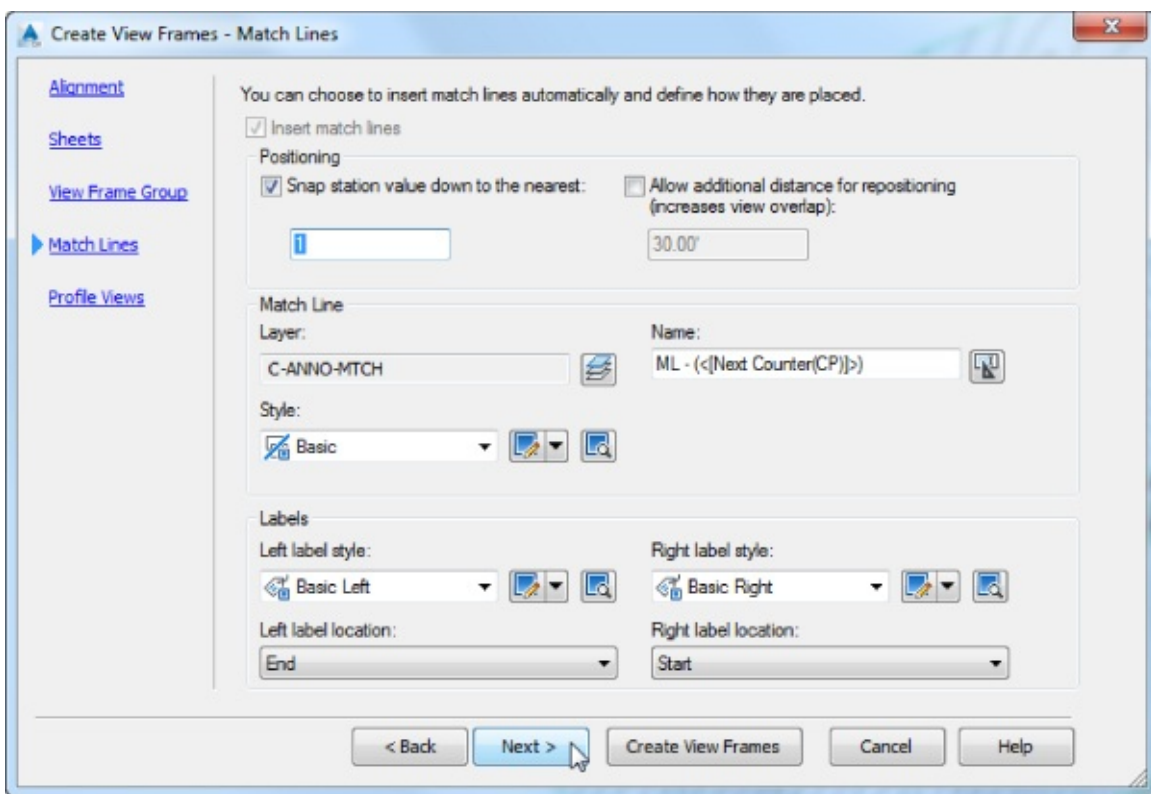

Figure 15.8 Create View Frames – Match Lines : wizard page
You use the fourth page of the Create View Frames Wizard (Figure 15.8) to establish settings for match lines. Match lines are used to maintain continuity from one sheet to the next. They're typically placed at or near the edge of a sheet, with instructions like “See Sheet XX” for continuation.
Snap Station Value Down To The Nearest By selecting this option, you override the drawing station settings and define a rounding value specific to match line placement. With the settings shown previously in Figure 15.8, a value of 1 is entered, resulting in the match lines being placed at the nearest whole station. For example, if the station was 8+14.83 and the value was 1, it would round down to 8+14, but for the same station, if the value was set to either 50 or 100, it would round down to 8+00.
With the settings shown previously in Figure 15.8, the match lines will be named using a predefined text (ML -) and a next counter: ML - 1, ML - 2, ML - 3, and so on.
With the settings shown previously in Figure 15.8, the label style for use at the left match line is shown in Figure 15.7. This Basic Left label style uses the Match Line Number, Match Line Station value, and Previous Sheet Number.
6. On the Match Lines page, confirm that all settings are as follows (these are the same settings shown previously in Figure 15.8), and then click Next to advance to the next page.